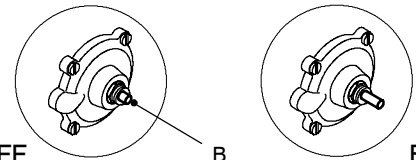

Fig. 52
- 3 Looking through the switch box verify the position of the shaft B referring to Fig. 52.